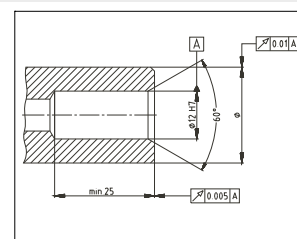

fig. 1: Spindle bore
- Check the concentricity and axial run-out of the of the bore in the spindle end! (fig. 1)
- Ensure that all dimensions, shape and positional tolerances are within the range of values specified by *DEUBLIN*! (fig. 1 und 2)